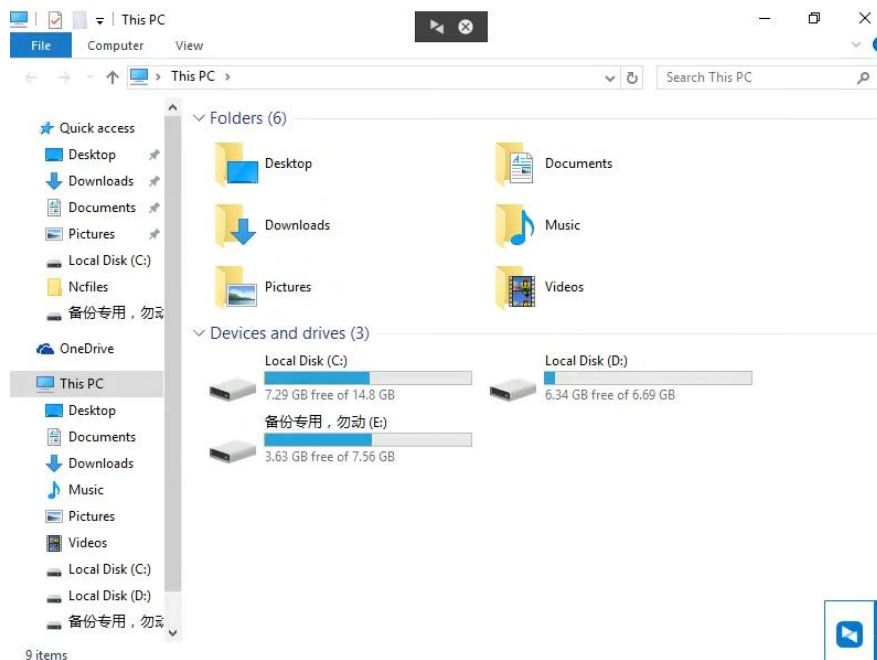

Figure 7.2.5
(5) A dialog will pop up as shown in Figure 7.2.5. Press and hold on the blank area of the "Devices and Drives" section.。